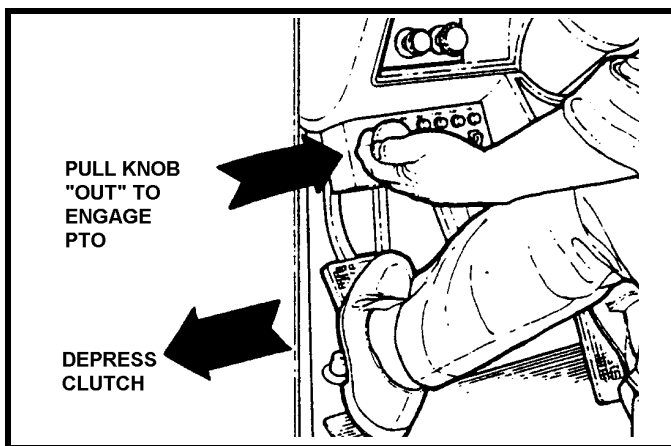

FIGURE 4.1
- (b) Reduce truck's engine to idle and apply parking brake. Depress clutch, place transmission in neutral and engage PTO by pulling knob located on panel in cab. See Figure 4.1.
- (b) Reduce truck's engine to an idle and apply parking brake. Depress clutch, place transmission in neutral and engage PTO by pulling out knob located on the dash panel in truck cab. Refer to Figure 4.1.